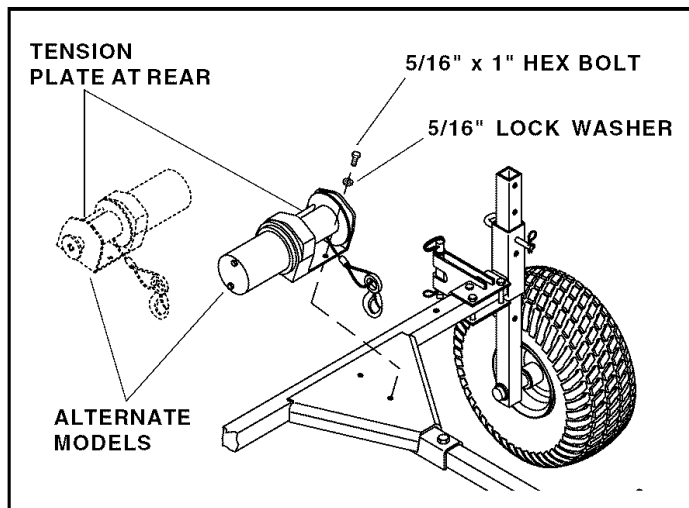

FIGURE 5
7. Position the winch on the hitch trailer so that the tension plate is on the back of the winch and the wire rope feeds out from the bottom of the drum at the front. Secure the winch to the trailer using two 5/16" x 1" hex bolts and 5/16" lock washers. See figure 5.